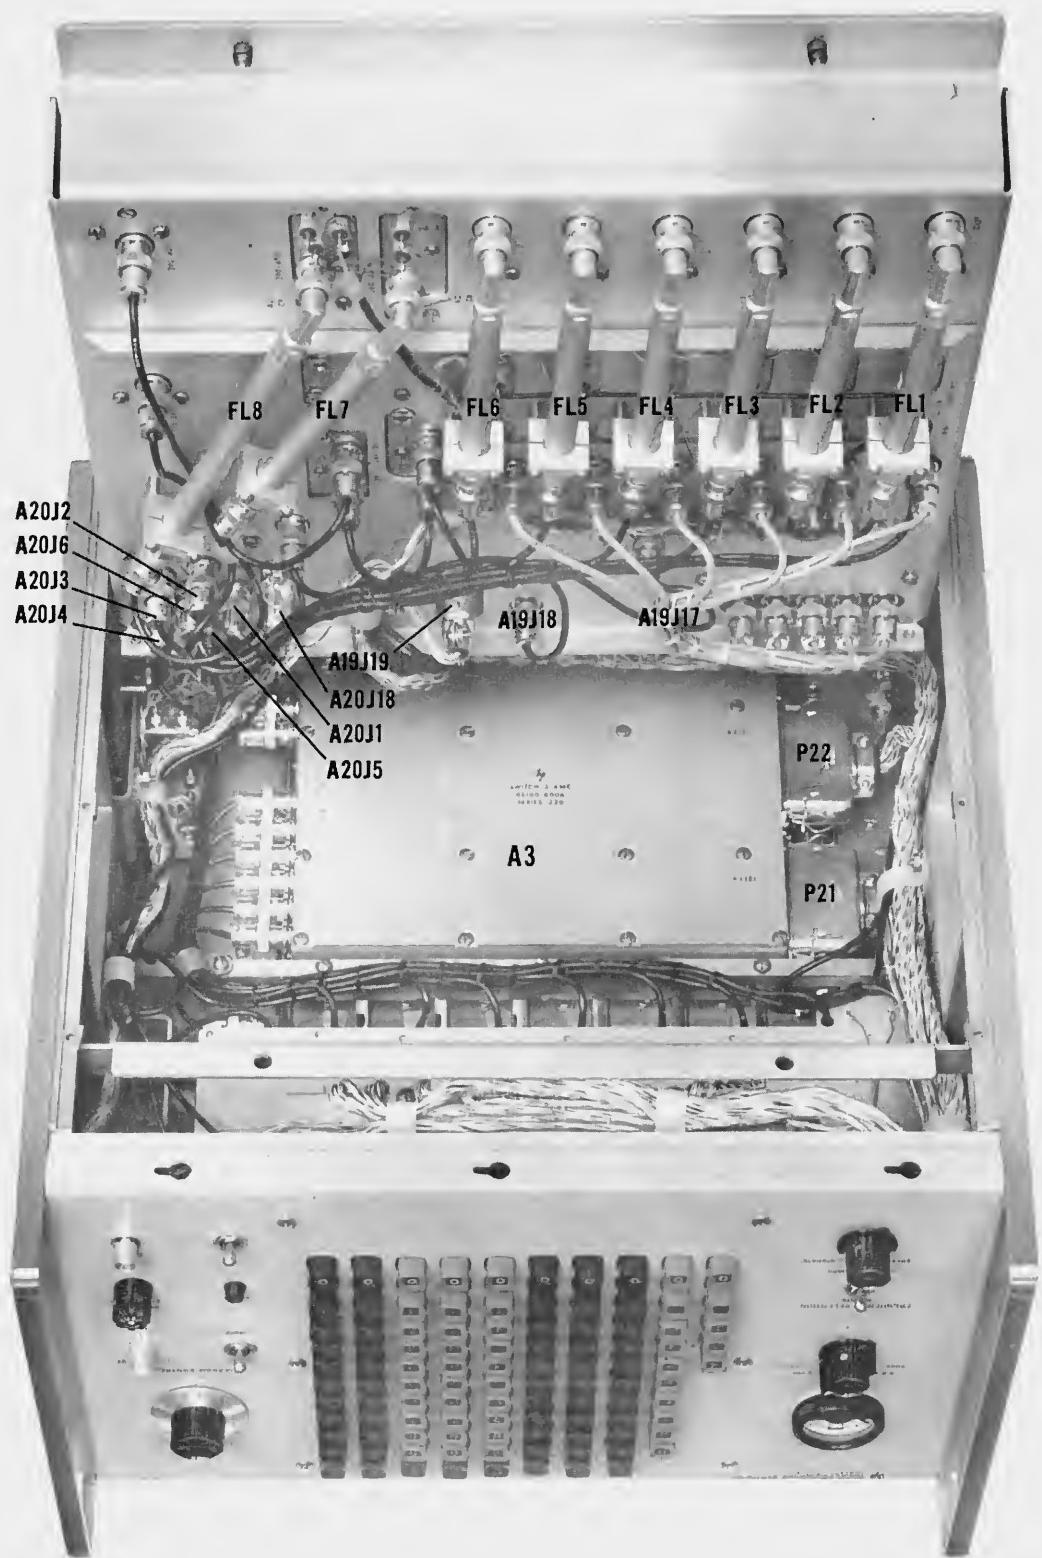

Figure 5-9. Component Location - UHF Deck Swung Out
b. Disconnect 39 Mc cable to A13 input (see Figure 5-9) and connect 39 Mc from an Φ 5110A.
d. Remove cable marked "390 Mc" which connects output of FL1 and 350 to 390 Mc Switch A20 (see Figure 5-9).
5-75. To measure insertion loss, swing out UHF deck (see Figure 5-9) and connect the input of the desired switch through a BNC "T". Connect another BNC "T" to J6. Using the appropriate front panel pushbutton, or remote programming, turn the switch "on". Measure the input with an $\frac{1}{2}$ 411A RF Millivoltmeter (use db scale). Measure the output with the RF Millivoltmeter. The difference in db readings is the insertion loss of that diode switch. Insertion is normally less than 1 db.